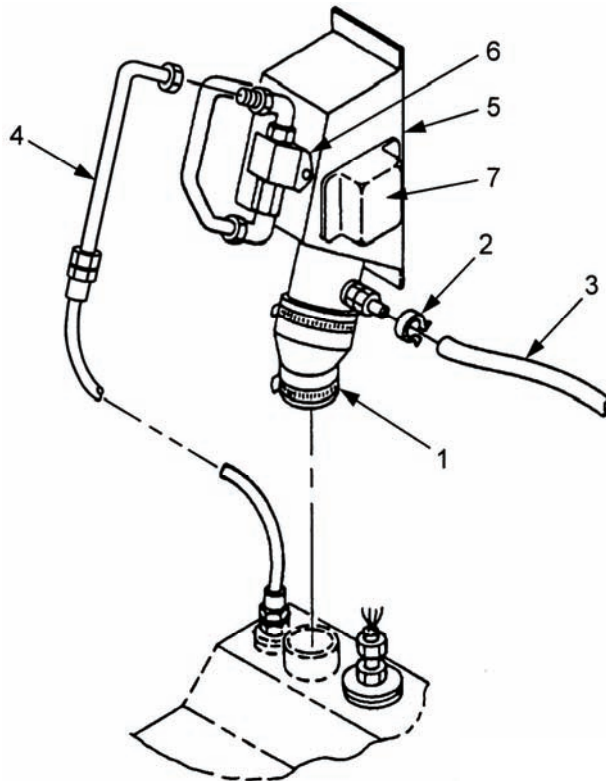

Figure 5-11. Fuel Filler Panel.
- a. Loosen clamp (1, Figure 5-11) securing fuel filler panel (5) to fuel tank. Cap openings.
- b. Loosen clamp (2) and disconnect hose (3) from fuel filler panel (5). Cap openings.
- c. Disconnect fuel line (4) from fuel pump (6). Cap openings.
- d. Tag and disconnect auxiliary fuel pump (6) electrical connector P11 from harness connector J11.
- e. Tag and disconnect fuel float module (7) electrical connectors J12 and P15 from harness connectors P12 and J15, respectively.